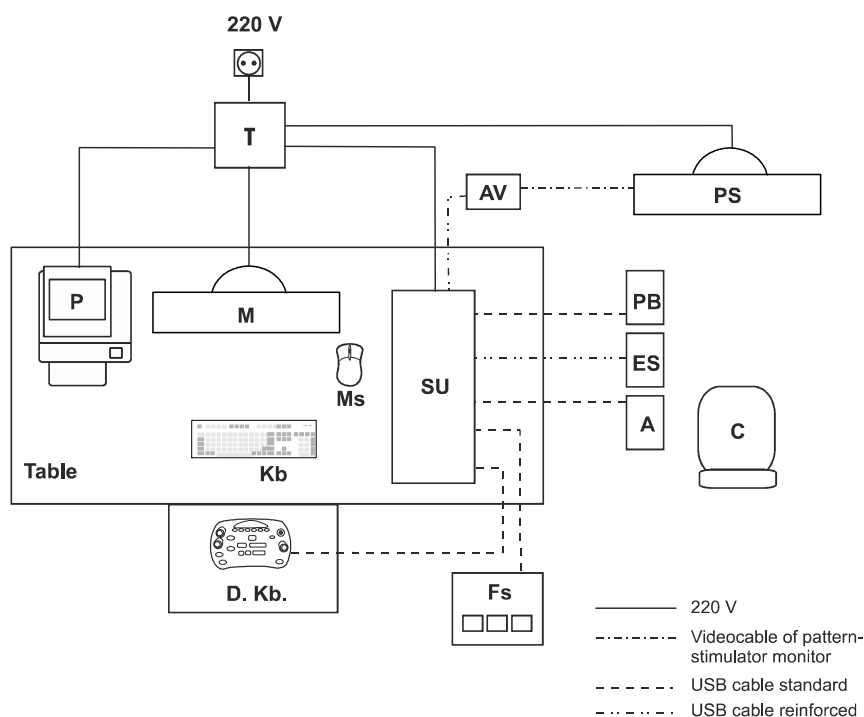
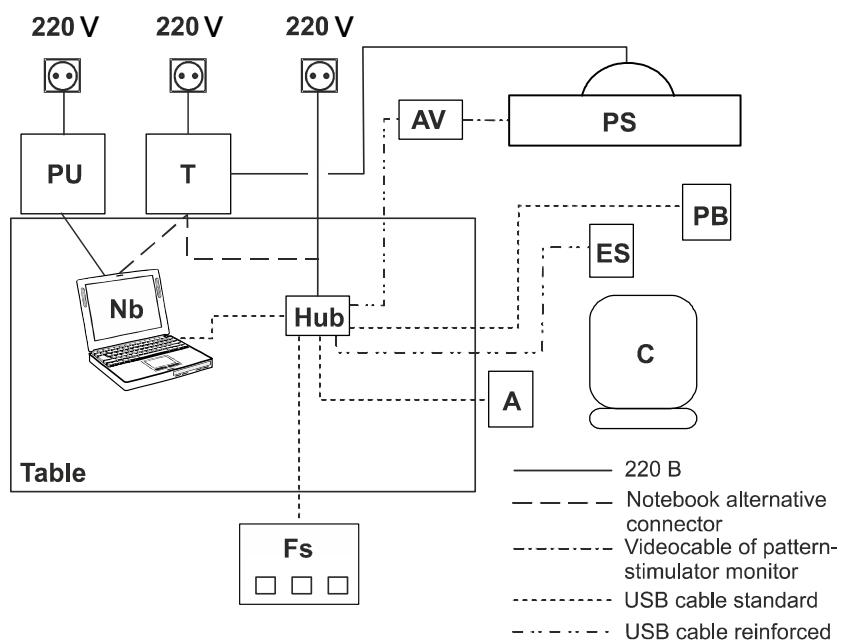

Fig. 11. Digital system placement sample when connecting to desktop PC (see explanation below).
Fig. 12. Digital system placement sample when connecting to notebook PC (see explanation below).
The typical schematics of the equipment location when connecting to the desktop PC and notebook PC are given below (Fig. 11, Fig. 12).
- Hub – KM-7 external USB hub or the analogous one according to GOST R 50267.0-92 (IEC601-1-88). The connection of the USB hub to the mains is performed according to the Fig. 12.